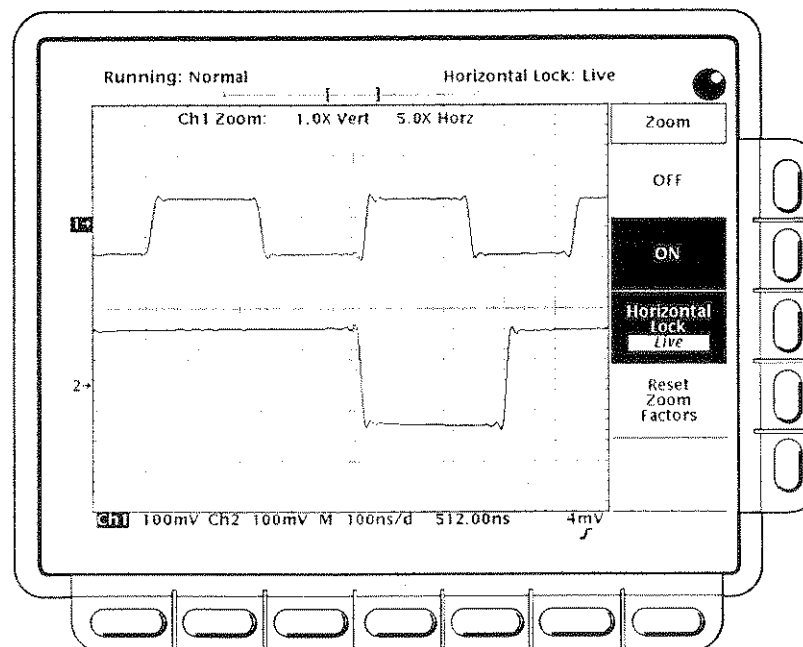

Figure 3-74: Zoom Mode with Horizontal Lock Set to Live
- **Live**—all channels can be magnified and positioned horizontally at the same time (Figure 3-74). (Waveforms displayed from an input channel are live; math and reference waveforms are not live.)